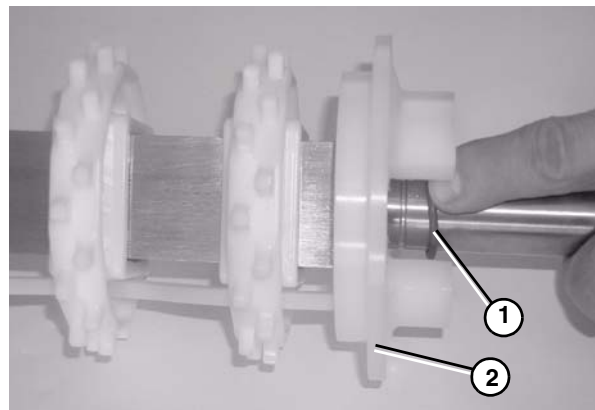

Figure 71
5. Install a flanged puck (Figure 71, item 2) onto spindle shaft. Install O-ring (Figure 71, item 1) onto spindle in groove provided.